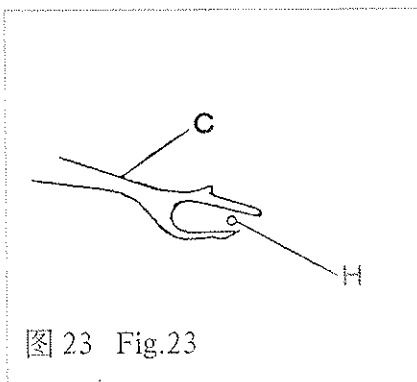

图 23 Fig.23
②作上述调整后,必须检查钩线叉在左端(图 23)时,机针“H”的针尖应在钩线叉“C”的叉口中间或机针稍低于中间位置通过。如有相撞,必须作相应调整,达到左右兼顾。
(3) Adjustment of the position of the thread hook
② When the thread hook locates at the left end (Fig.23) after completing the said adjustment, the needle point "H" shall be in the middle of the prong of the thread hook "C". The needle can also pass the thread hook at a location lower a bit than the middle. Microadjustment can be made if the needle point comes into contact with the thread hook.